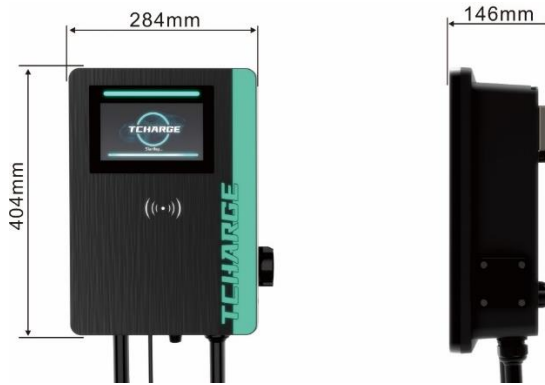

Fig. 4-1 The shape & dimensions of TCHARGE
- The shape & dimensions of TCHARGE shown as Fig. 4-1.